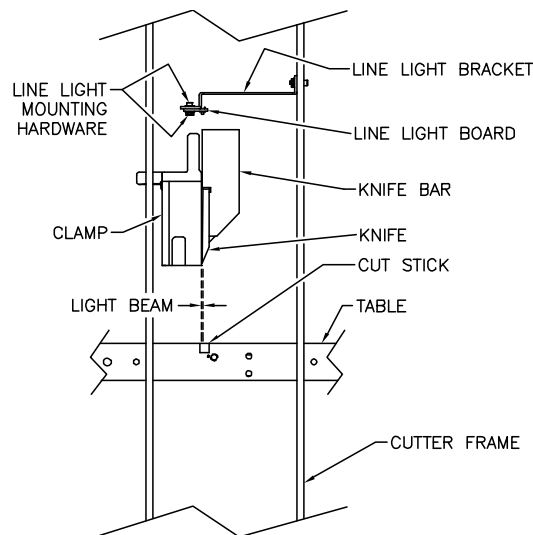

Figure 34 – L.H. Cut-Away Side View
The line light comes on whenever main power is turned to the ON position and stays on until the machine goes into sleep mode. Light reaches the table after passing between the knife and clamp, (Figure 34).
3. Locate the two screws that attach the LED line light board to the mounting brackets and loosen but do not remove them (Figure 34).